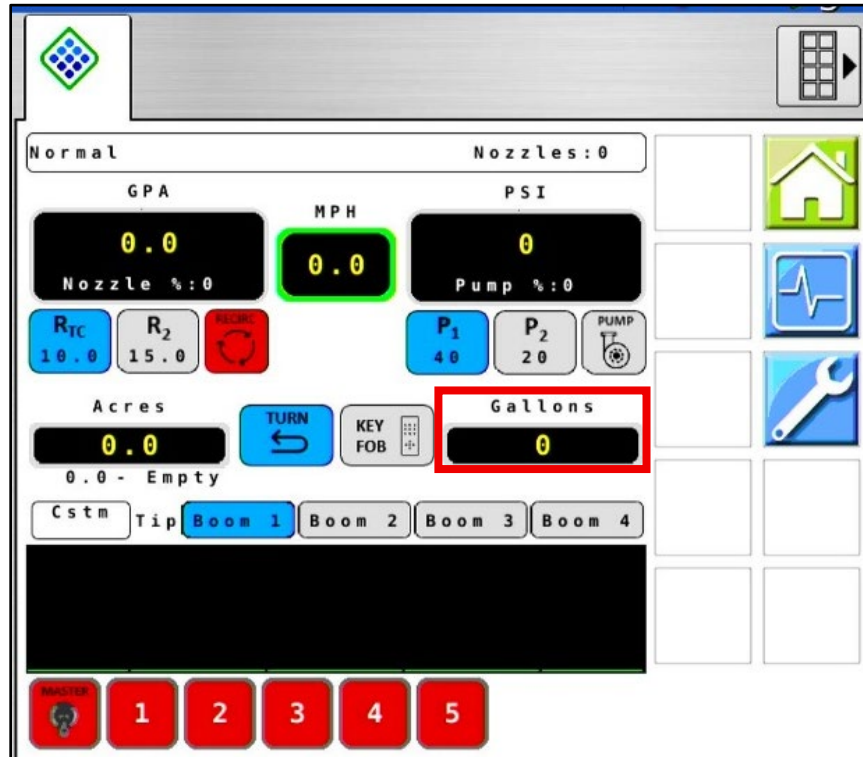

Figure 25 – PinPoint III Home Screen
42. **Figure 25:** Once system is restarted from previous step, tap the **Gallons** text input area to open the **Tank Meter** popup.